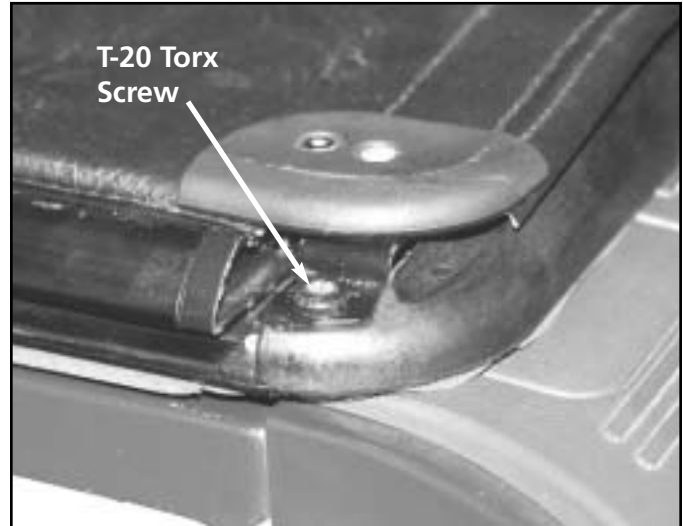

Figure S-24
1. Remove the two (2) T-20 Torx slider retainer screws from the front rail. See figure S-24.
13. Install the two (2) T-20 Torx screws through the slider retainers into the front rail and fasten. Refer back to figure S-24.
14. Initialize the key FOBS to the new RKE module by pressing and holding the red button on the motor cover for five (5) seconds. The light in the motor cover will flash to indicate that the RKE module is in the learn mode. Press one of the buttons on each FOB to be programmed. The light should flash twice every time a key FOB is initialized.